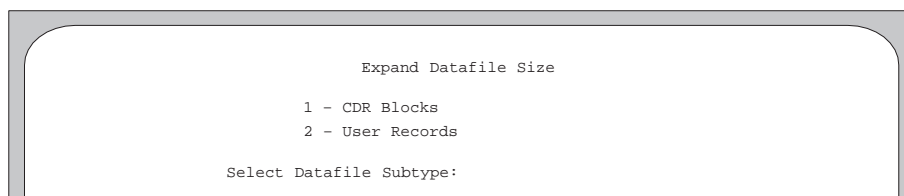

Figure A-28. Expand Datafile Size Menu.
2. From the Datafile Utilities menu, access the Expand Datafile Size menu, as shown in Figure A-28.